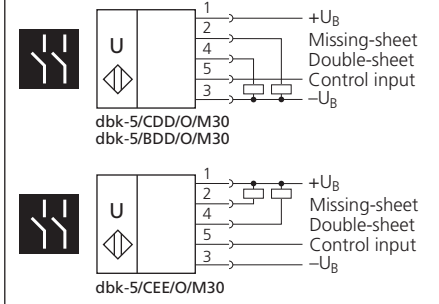

Fig. 5: Terminal assignments
- Connect the 5-core control cable of the receiver as shown in Fig. 5.